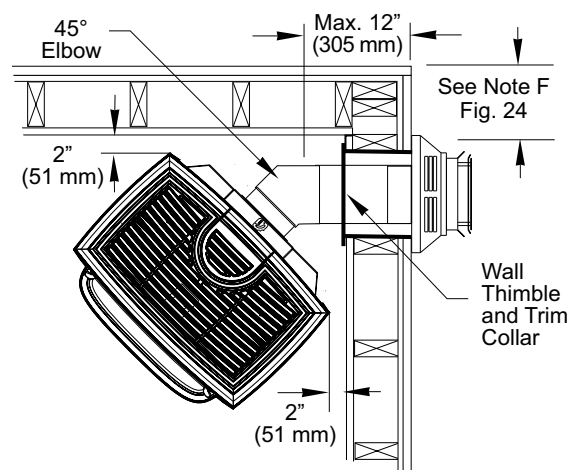

Figure 23.
- One 45° Elbow may be used for a corner installation as shown in fig. 23.